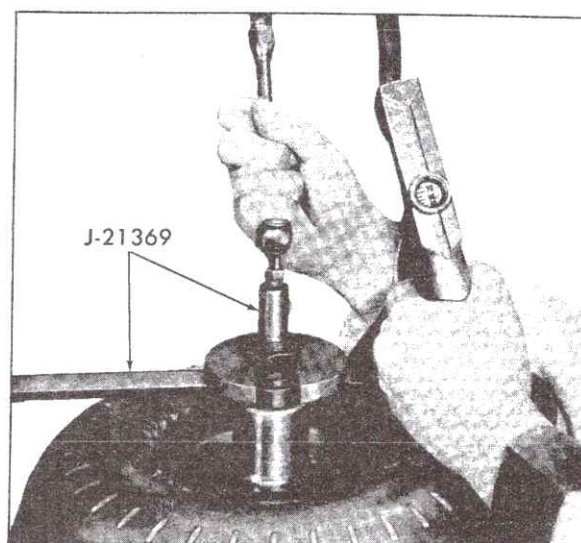

Fig. 7-31 Leak Checking Converter
3. Install leak test fixture band crosswise on converter so that slotted plate fits around valve and under nut. Fig. 7-31. Tighten nut to expand O-ring and secure a good seal.